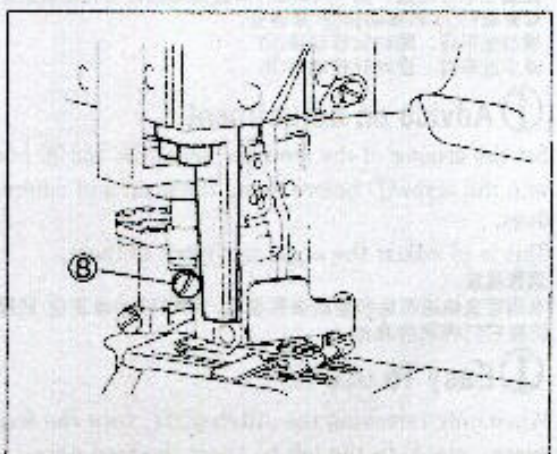

Fig. 84 图84
(3) 松开定向叉螺钉 ④, 松开上刀片、刀片夹和刀柄。
- (4) Loosen two screws ⑦ of the knife holder bracket ⑥ to remove the knife holder guide collar, c. set ⑤ and the upper knife.
- (5) Loosen the screw ⑧ on the back of the presser foot, (on the left side on "-07" and "-12" models: Fig. 84)
(4) 松开球形连杆 ⑥ 的螺钉 ⑦, 移去定向叉组件 ⑤ 和上刀
(5) 在压脚背面松开螺钉 ⑧。(见图 84)